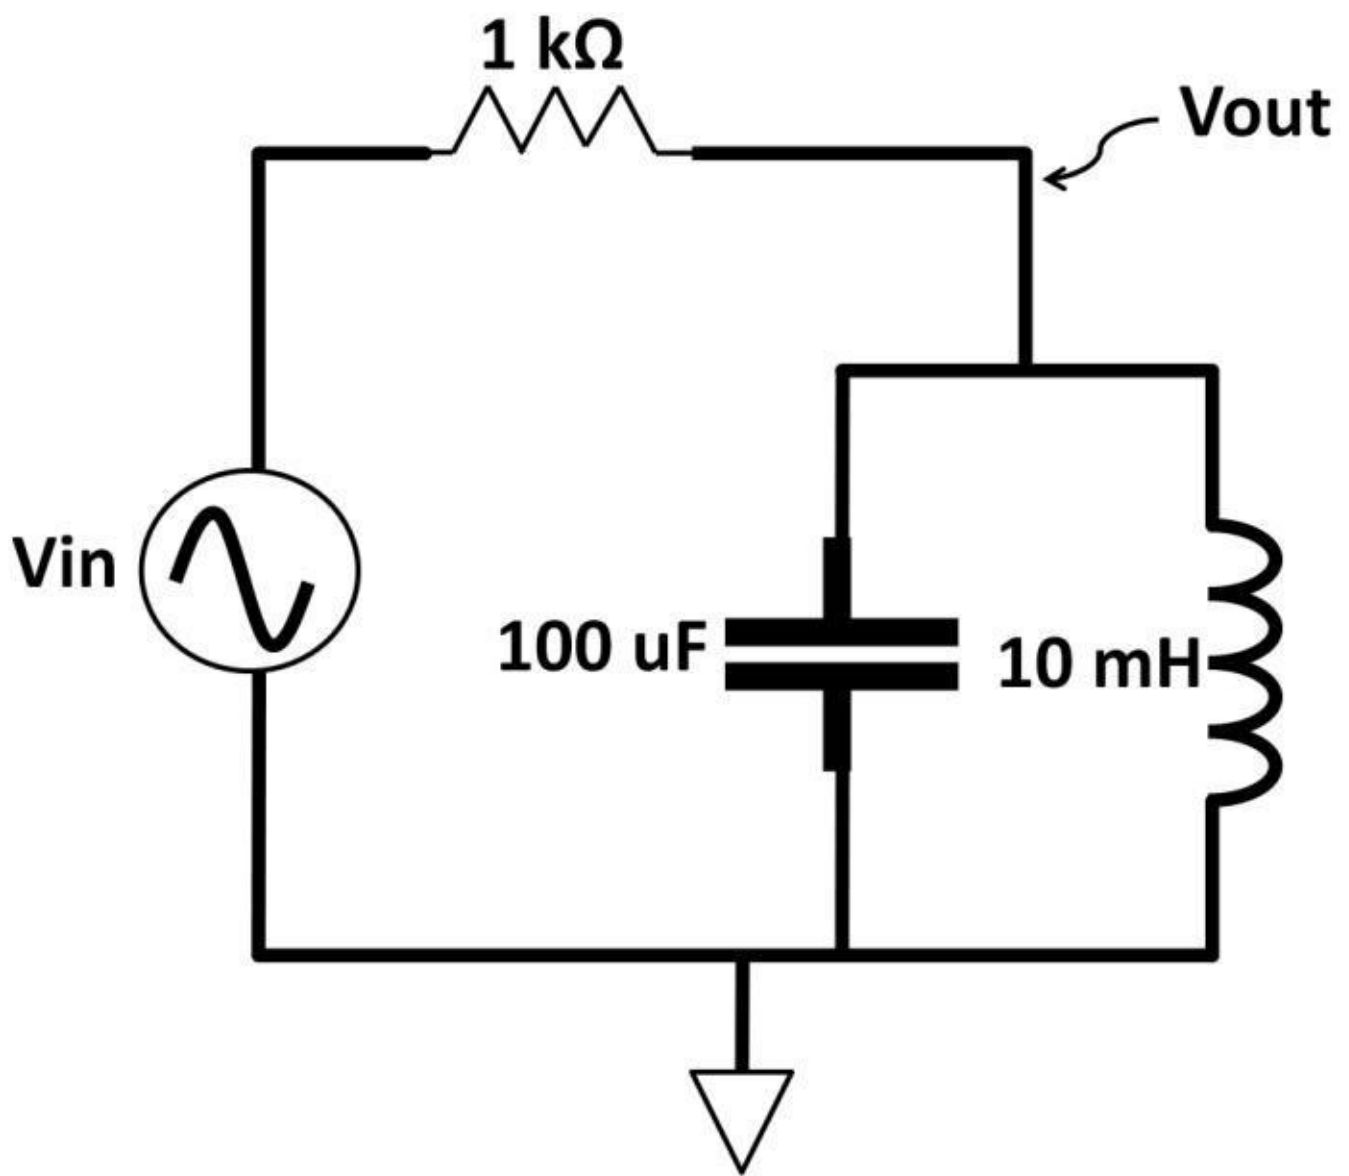
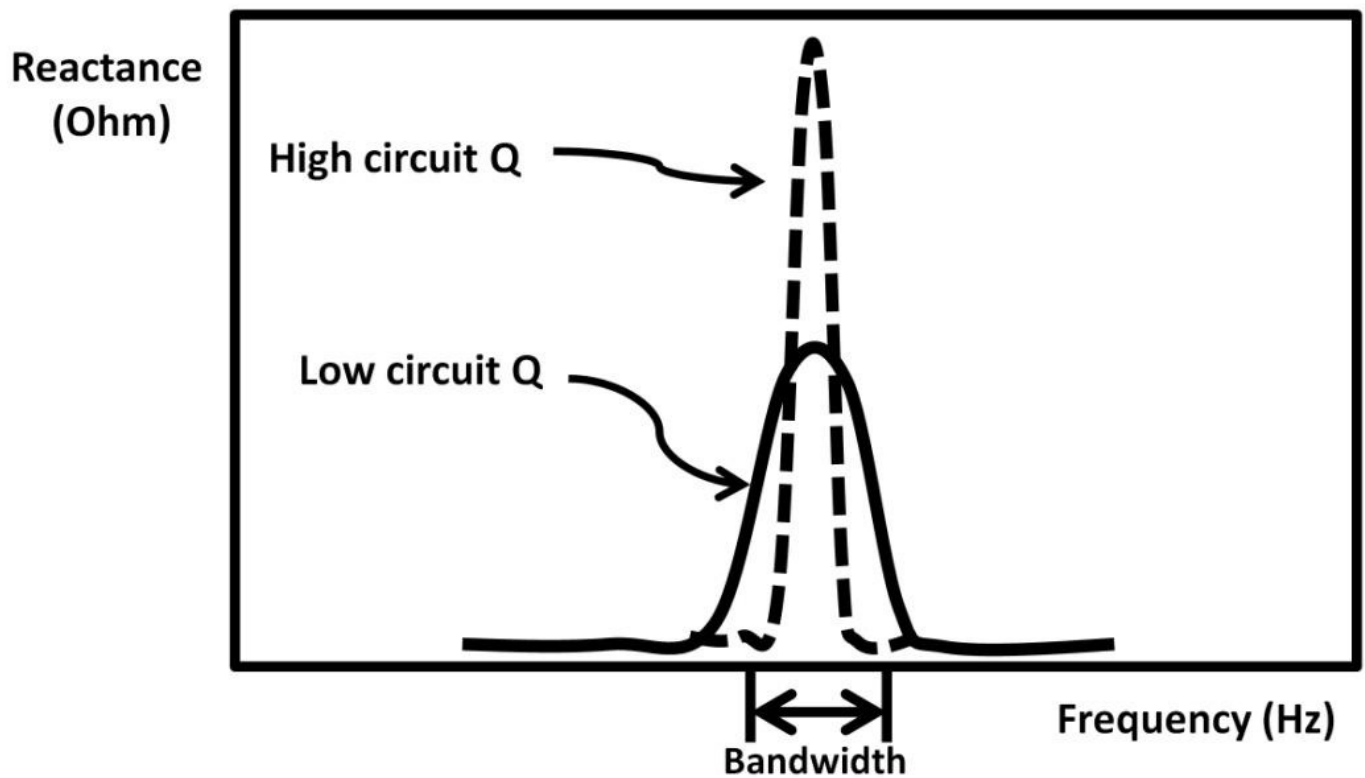

Figure 3.69: LC tank circuit
Figure 3.70: High and low circuit Q AC response
11) A tank circuit shown in figure 3.69 consists of 10 mH and 100 pF capacitors. What is the resonant frequency of this tank circuit? The Q factor of a resonant circuit can be used as a figure of merit to describe how good the tank circuit is. The higher the Q, the smaller the bandwidth. This results in sharper AC response, as shown in figure 3.70. Bandwidth is measured from the peak reactance to both rising and falling at 70.7%. What is the bandwidth of this tank circuit if Q is 100?